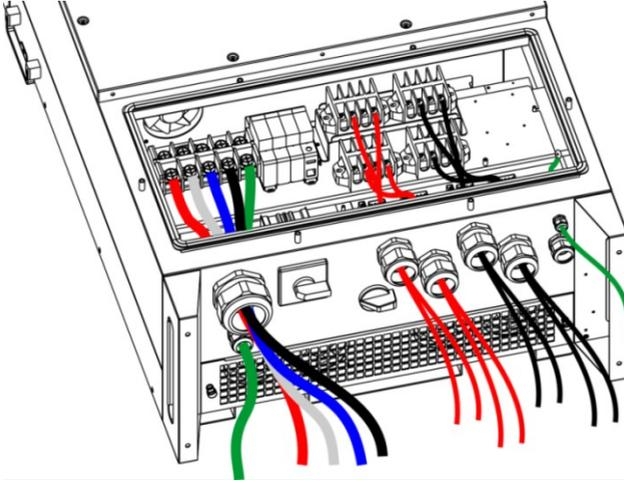
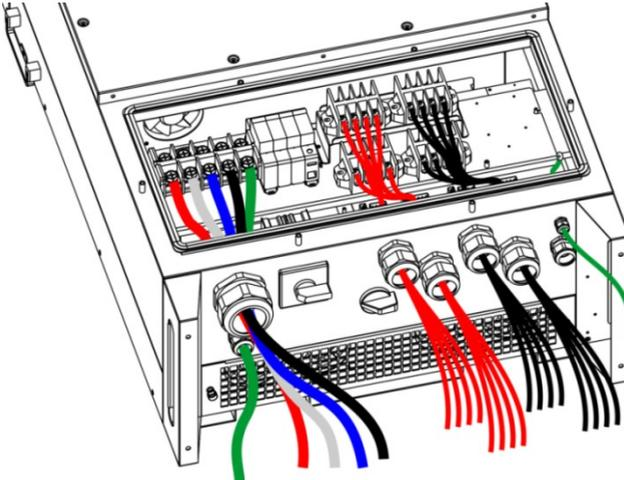

Figure 13
Figure 14
Step 6: Complete the wiring of the DC input with two sets of wiring (Figure 13) or four sets of wiring (Figure 14), and tighten the thread locknut of the DC input; 5 Nm torque must be applied for proper tightening. The installation is thus completed.